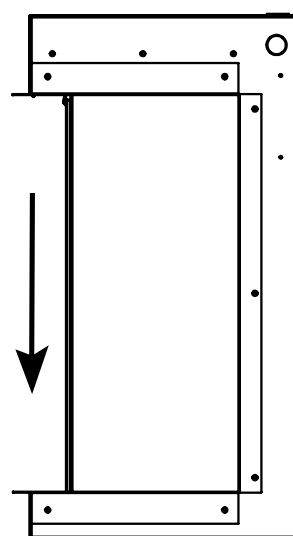

Figure 20: Front Glass - Step 2
3. Lower the glass down into the bottom channel (See figure 20).